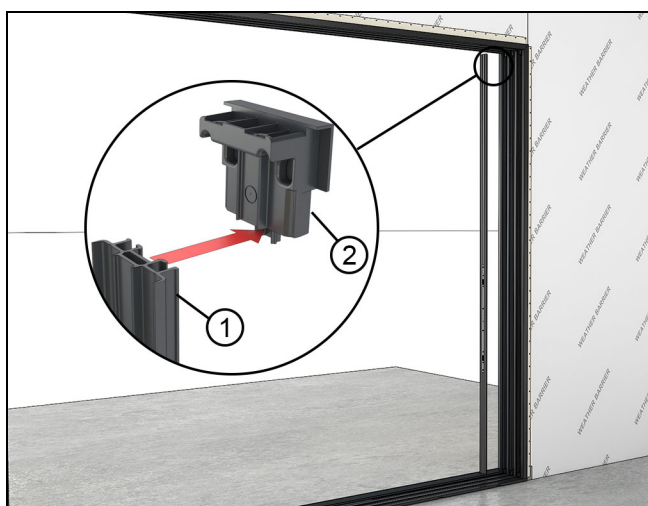

Figure 75
10. On uni-directional units, install the jamb filler with strike attached. The filler will snap into place, engaging with the top and bottom corner keys. See Figure 75.